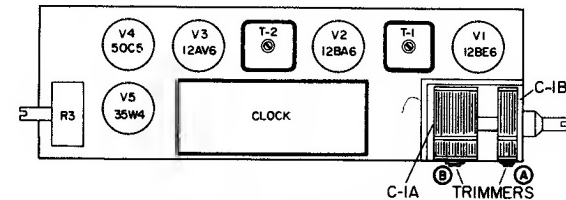

Fig. 1. Location of Alignment Adjustments and Tubes
- Refer to Fig. 1 for location of alignment adjustments.